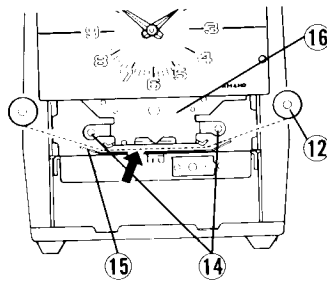

Fig. 11
- 3) Set the ribbon spools with ratchets into the holes ⑭ of the frame diagonally. The ribbon must be carefully inserted between ribbon shield ⑮ and frame ⑯ as shown in Figure 11.
- 4) Turn the ratchet ⑬ to take up slack in the ribbon.